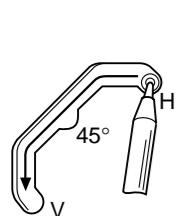

Figure 4 / Figure 4 / Figura 4
- Insert an item such as a screwdriver with a fine point or the tip of a ballpoint pen into the round hole of the installation selector lever to switch to the position you need. (Figure 4, 5)